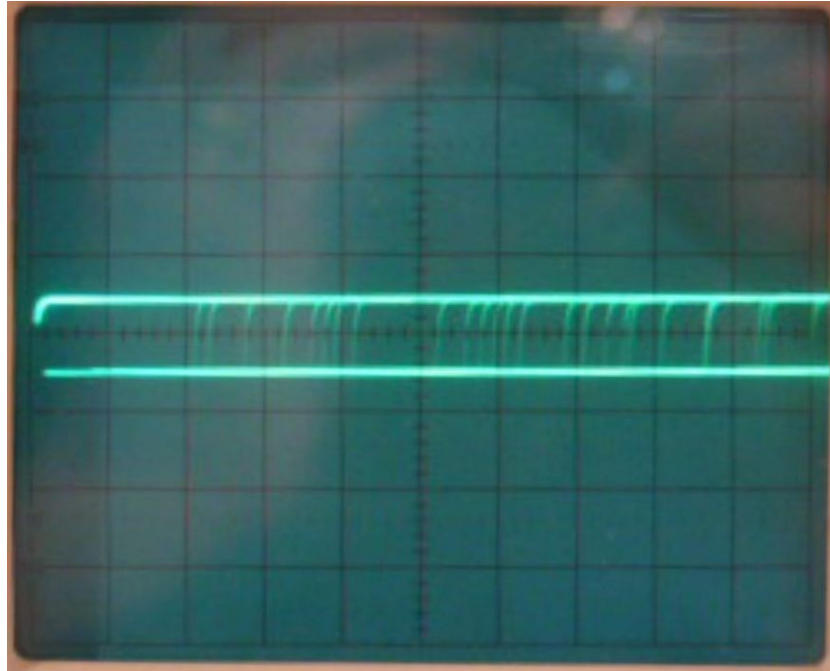

Figure-1 Properly adjusted data slicer threshold waveform.
4. Disable signal generation into the D4-10 and observe the TTL RXData circuit on the oscilloscope. Two horizontal lines should be visible, representing logic zero and one with noise in between them. One line may have a greater intensity than the other, or one line may even be missing, both conditions indicating an imbalance between logic zero and one. Adjust the data slicer threshold potentiometer R17 to produce an equal amount of intensity on both lines which will put the data slicer in the center of the noise passband. Figure-1 (see page 4) illustrates a properly adjusted data slicer threshold.